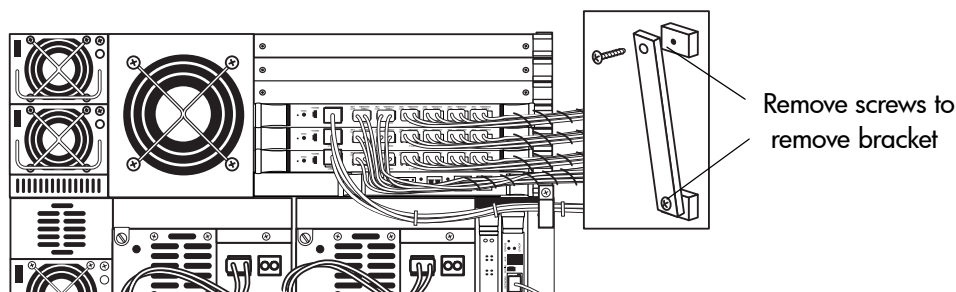

Figure 49: Removing the existing cable restraint bracket
- a. Remove the top and bottom screws from the cable restraint bracket and remove the bracket from the library (see Figure 49).